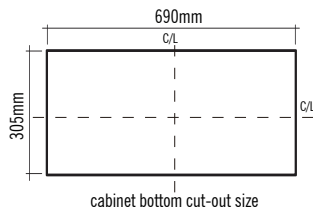
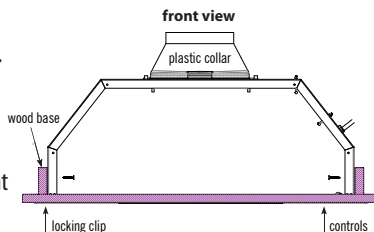

FIG 1
FIG 2
- Air turbulence from window/door may reduce the effectiveness of hood. It is recommended to close window door before using hood. (FIG. 1)
(FIG. 1)
- The min height is 650mm and the max installation height is 750mm for gas hob.(FIG. 2)
(FIG. 2)
1. Cut out an opening in the bottom of the cabinet by following the dimensions in FIG 1 .
3. Use (2) M4 x 8 screws to install the plastic collar.
4. Lift the hood into opening and ensure locking clip is locked into position. (locking clip is located on left side of hood body.) see FIG 2
5. Fasten (2) #6 x 1" wood screws into each short side of the hood body.
NOTE: Wood blocking may need to be added to cabinet base if additional support is needed. see FIG 2